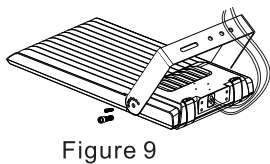

Figure 9
5. FLOOD MOUNTING (FM)
Step 1: First install two big screws. (Figure 9)